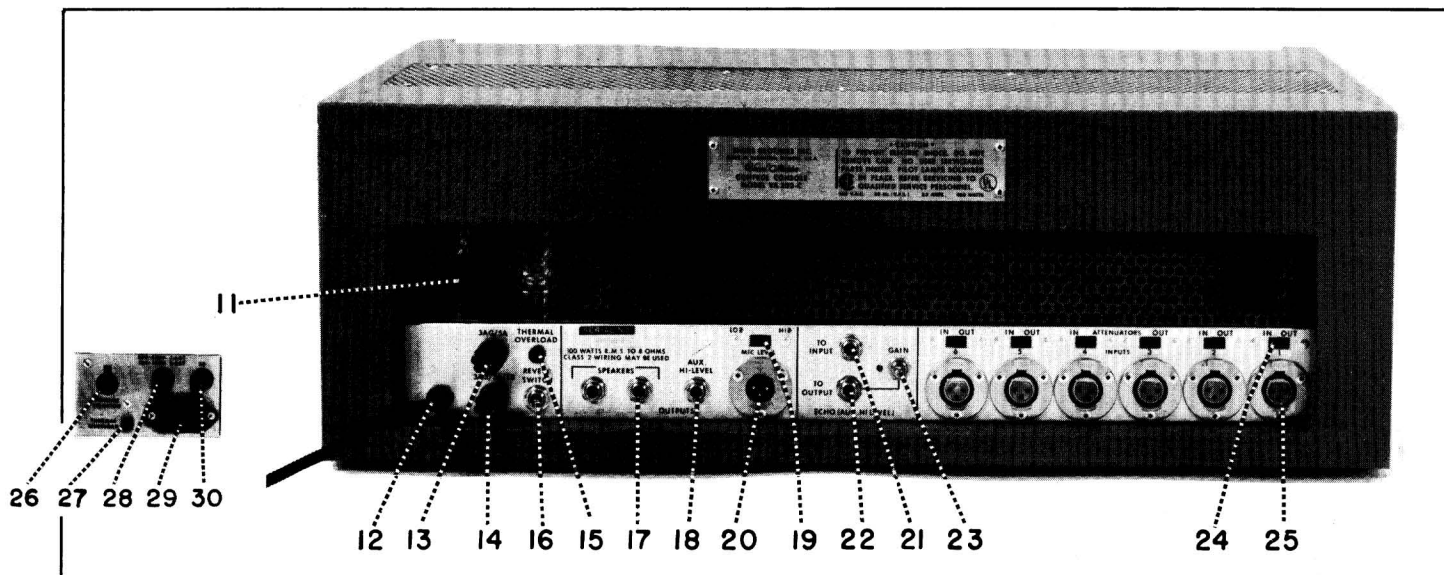

FIGURE 2.
**Rear Panel Controls and Connections** (Refer to Figure 2)